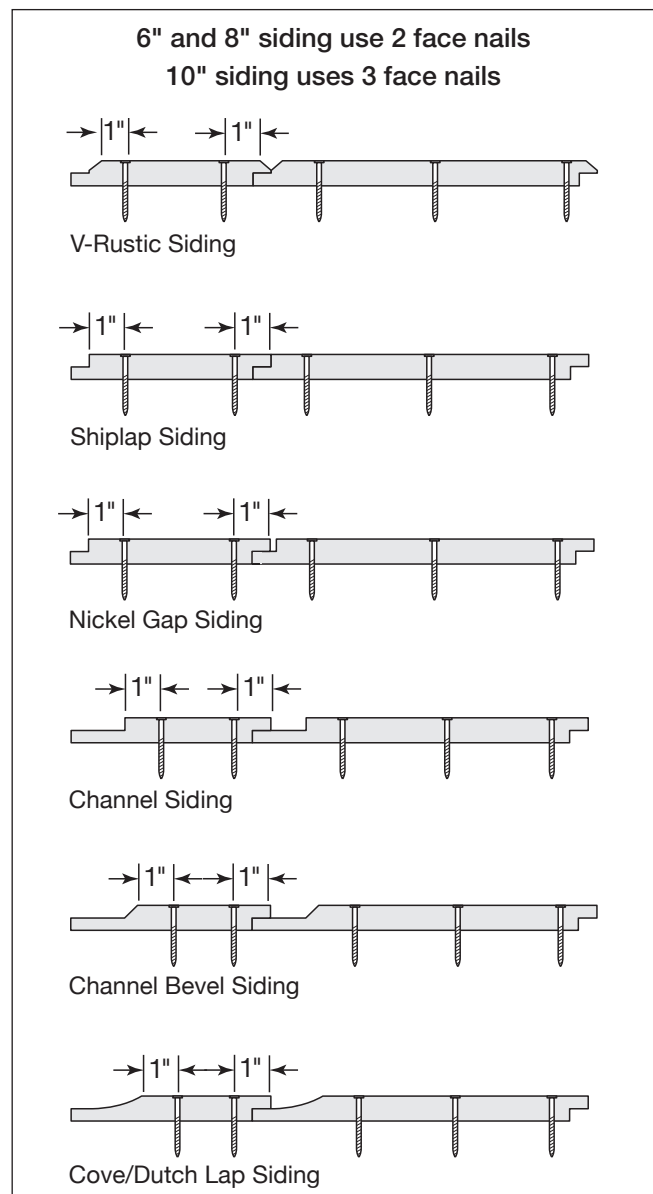

Fig. 19
- For 4", 6" and 8" profiles use 2 fasteners per every framing member. Both fasteners should be through the face of the profile (**Fig. 19**).
- All fasteners should be through the face of the profile (**Fig. 19**)